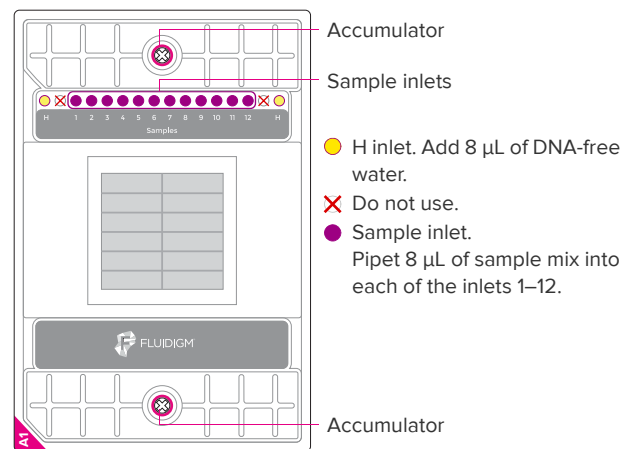

Figure 1. 12.765 IFC pipetting map
- 1 Inject control line fluid into each accumulator on the IFC (Figure 1). Use the entire contents of the syringe.
- 2 Pipet 10 µL of 1X GE Sample Loading Reagent into each hydration inlet (Figure 1).
- 3 Pipet 4 µL sample mix into each sample inlet (Figure 1).